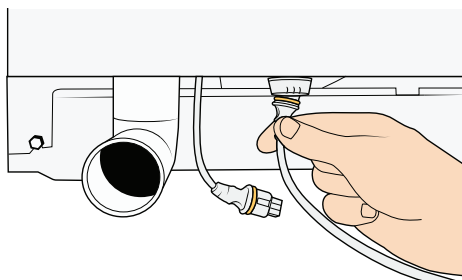

Figure 5
4. Connect the external battery power to the actuator (see Figure 5) or connect the bathtub to temporary mains.